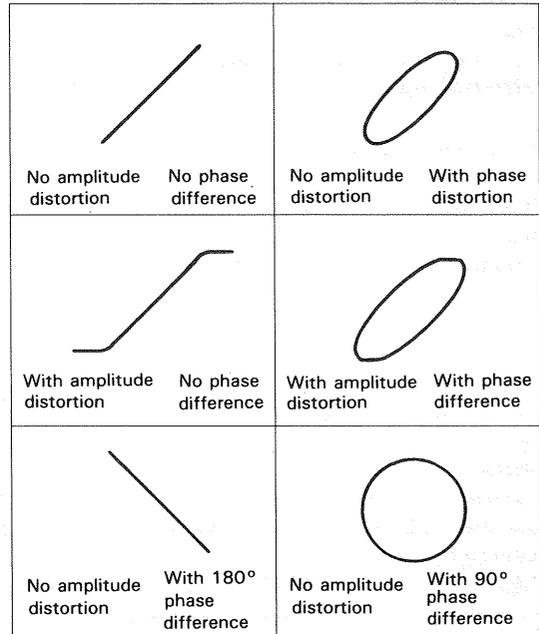

Fig. 51 Typical Display of Phase Measurement
- 7) Fig. 51 shows typical examples. If the two signals are equal in phase, the Lissajous' pattern is a straight diagonal line. It is at 45° if the vertical and horizontal gains are set to the same level. A 90° phase shift produces a circular Lissajous' pattern. Phase shift more or less than 90° produces an elliptical Lissajous' pattern. The amount of actual phase shift is calculated as follows: